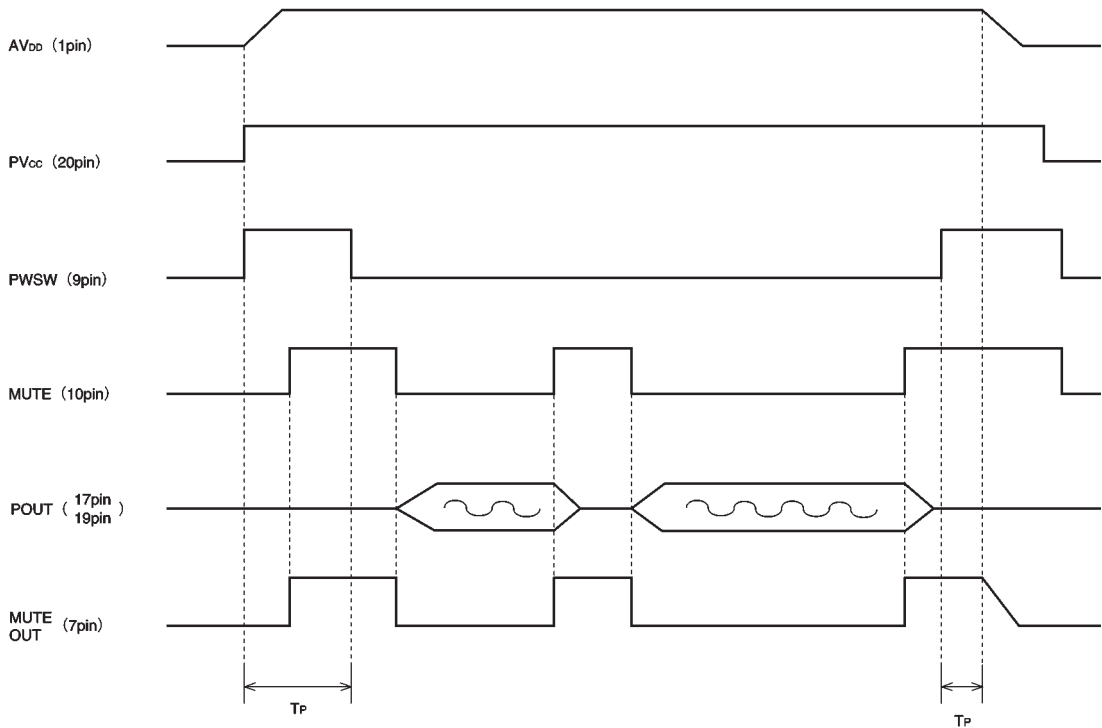

Fig.5 Timing chart
(1) By operating the BA3578FS and BA3579FS according to the timing chart shown in Fig. 5, it is possible to suppress generation of "pop" noise in the headphone output.